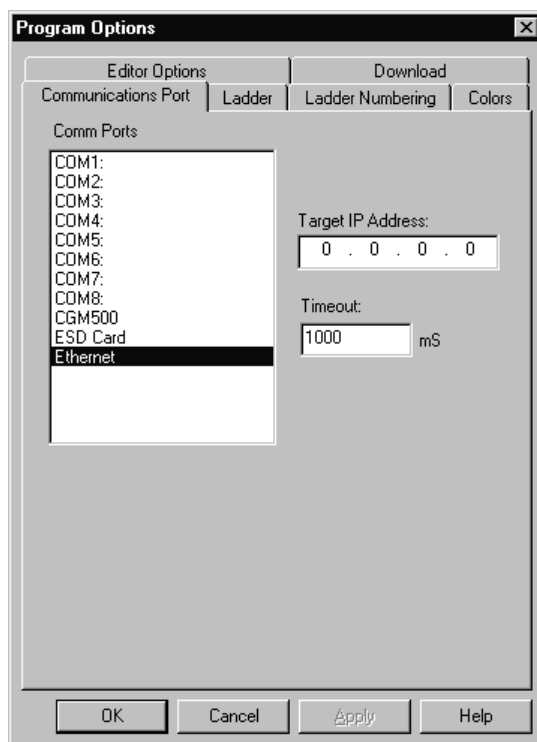

Figure 4.1 – Program Options Dialog – Communications Port Tab and Ethernet Selected
1. On the main Cscape screen, select the **Tools** menu and its **Options** sub-menu to open the Program Options dialog (Figure 4.1).
If the new Ethernet configuration specifies *Static IP Address* (Section 3.2.1 [page 21]), make sure the **IP Address** parameter (Figure 3.5 [page 19]) matches Cscape's **Target IP Address** (Figure 4.1).
If the new Ethernet configuration specifies *Static IP Address with CAN ID* (Section 3.2.2 [page 21]), make sure the IP Address, which will be built from the combination of the **IP Address** parameter (Figure 3.5 [page 19]) and the OCS/RCS CAN Network ID, matches Cscape's **Target IP Address** (Figure 4.1).
If the new Ethernet configuration specifies *IP Address from OCS Register* (Section 3.2.3 [page 21]), make sure the OCS register indicated by the **IP Addr Register** parameter (Figure 3.5 [page 19]) contains an IP Address, and that it matches Cscape's **Target IP Address** (Figure 4.1). If necessary, use Cscape's Data Watch facility to set the OCS register to the correct IP Address before downloading.
2. Referring to Figure 4.1, change Cscape's **Target IP Address** to match the Ethernet Module's new IP Address.
4. If this does not succeed, try changing Cscape's **Target IP Address** (Figure 4.1) to match the static **IP Address** parameter (even if it is grayed out).